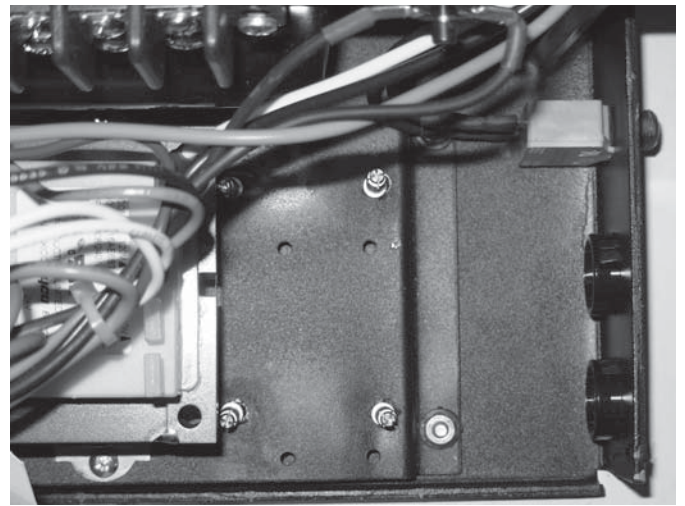

Figure 5
- b. FDCL Operators reference Figures 5 and 6